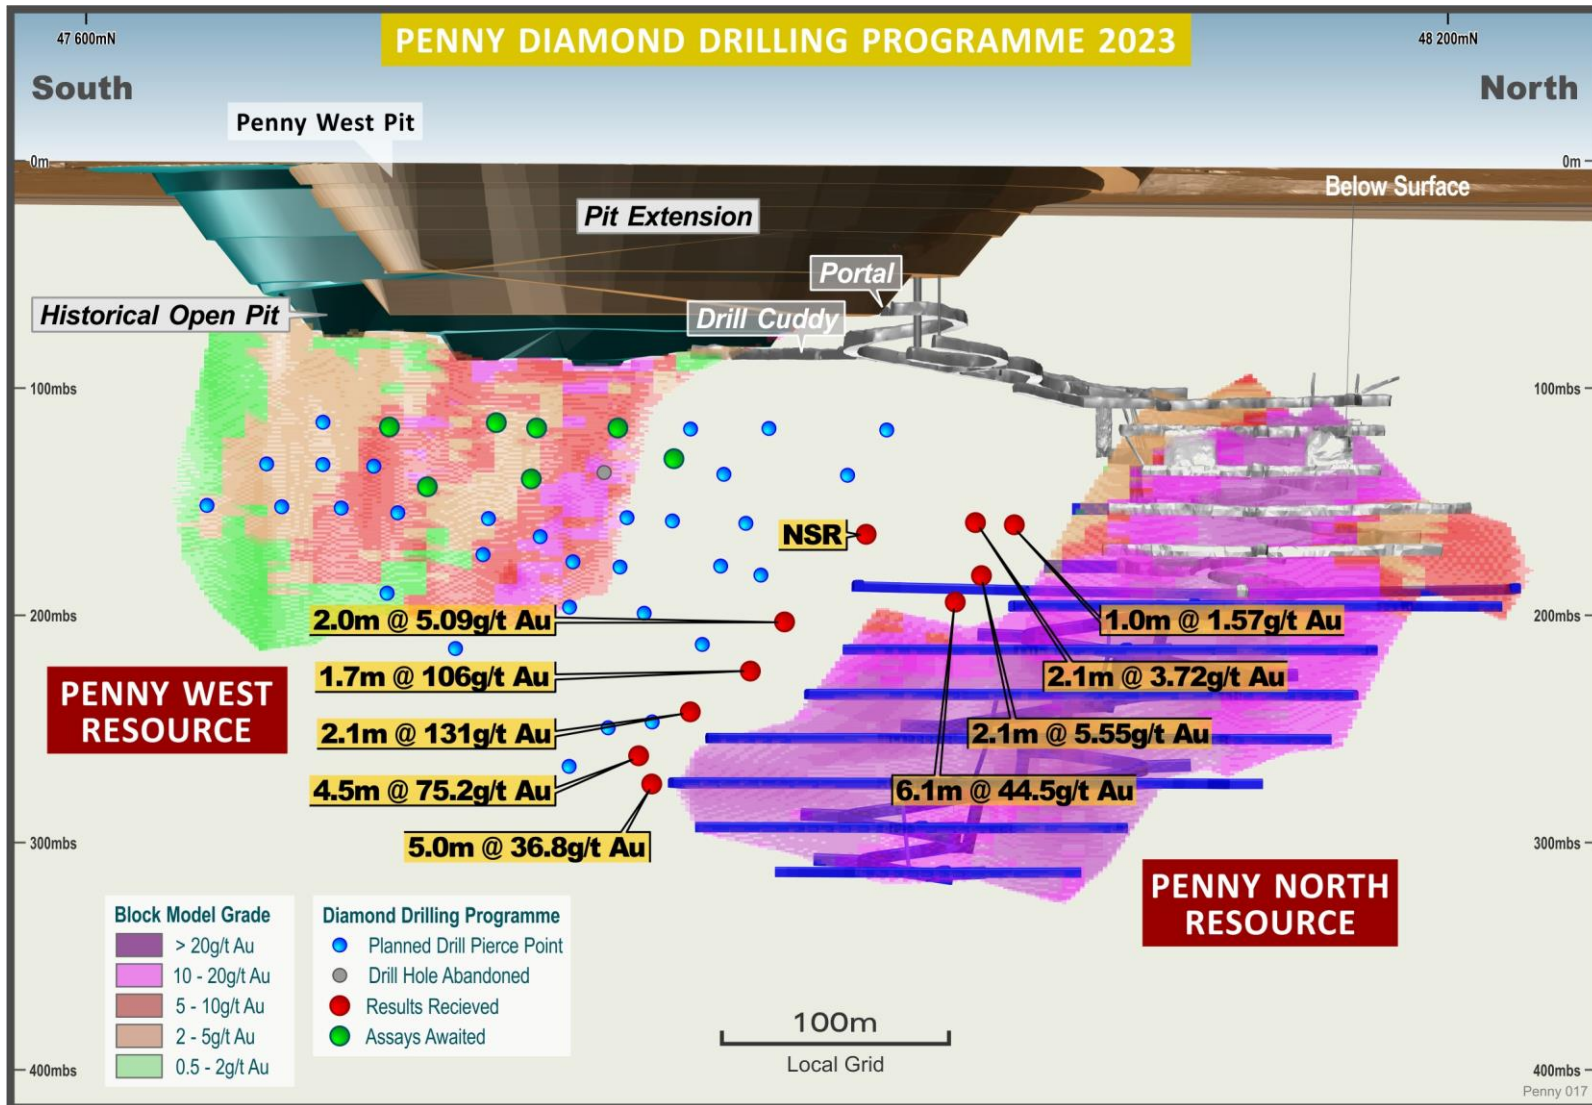

Figure 4: Penny diamond drilling programme 2023
- Decline extended to a level below the 1306 ore drive, which has since commenced (refer Figure 4)
- Drilling continues in the Penny West area with results pending mid-June 2023 (refer Figure 4)
Mining has progressed well with the first three levels of development and the first two stopes completed. Cemented rock filling (CRF) of the first two stopes has also been completed with the decline below the 1300 RL, where the 1306 ore drive has commenced (refer Figure 4). The 1324 RL ore drive was also recently completed with very high grades seen in a number of faces such as the one shown below:
Drilling commenced targeting the Penny West deposit in late May 2023, from the 1415 diamond drill caddy, with assay results expected to be received in mid-June 2023. Drill hole results from Penny North are shown in Figure 4 as well as Appendix 1, and include the following: